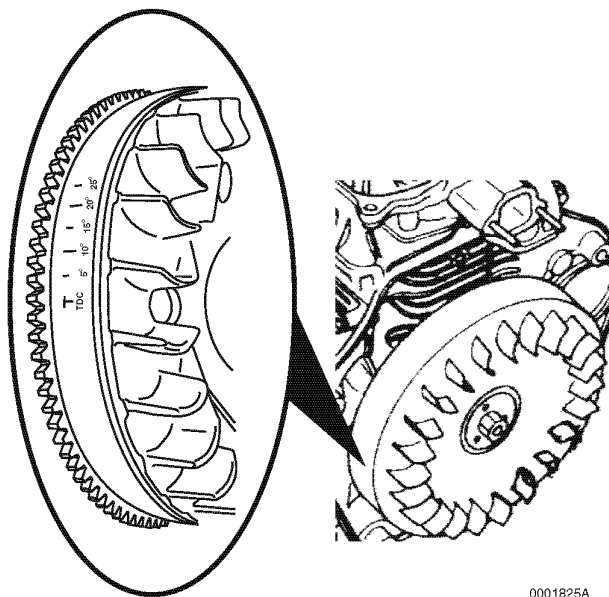

Figure 8-28
6. Rotate the flywheel to position the existing TDC mark at approximately 90° BTDC (**Figure 8-28**).